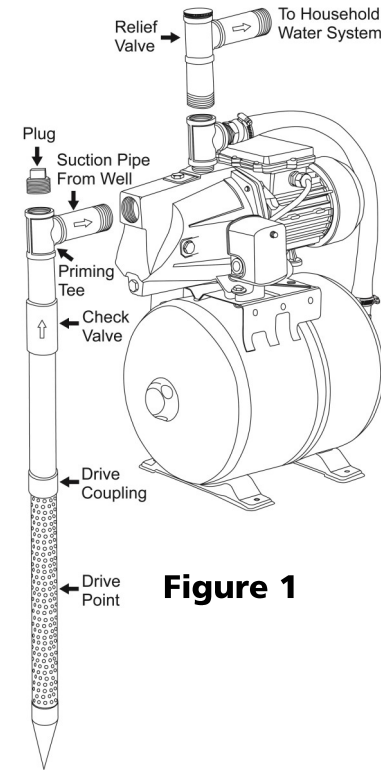

Figure 1
3. Install a priming tee with a plug on the suction pipe from the water source as shown in Figure 1. An inline check valve should also be installed on the suction line going to the pump. Install a union or other fitting that will allow the pump to be easily disassembled from the piping for easy servicing. Make sure Teflon tape or pipe joint compound is used on all joints.
4. Install a priming tee with a plug on the suction pipe from the water source (Figure 1). An inline check valve should also be installed on the suction line going to the pump. Install a union or other fitting that will allow the pump to be easily disassembled from the piping for easy servicing. Make sure Teflon tape or pipe joint compound is used on all joints.